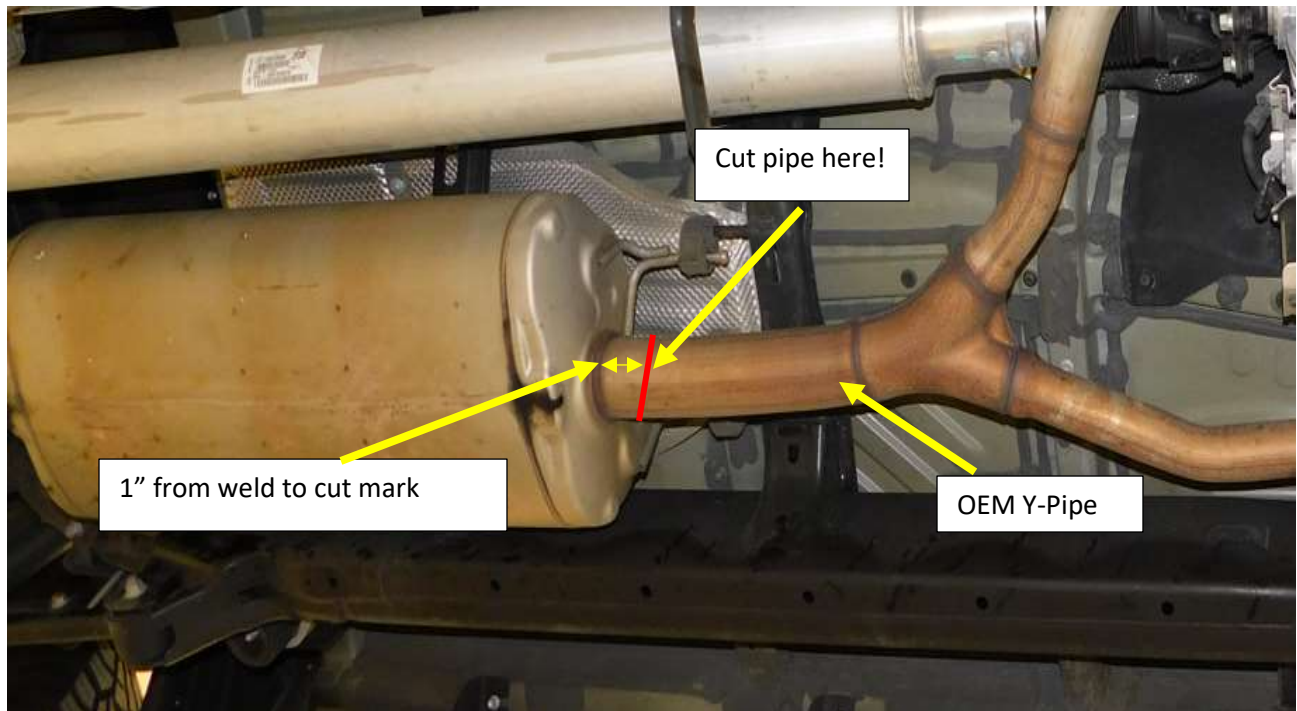

Figure 1
1. Cut the OEM exhaust 1” from the weld on the Factory Y-pipe just before the muffler assembly and support the Y-pipe. **Fig.1**